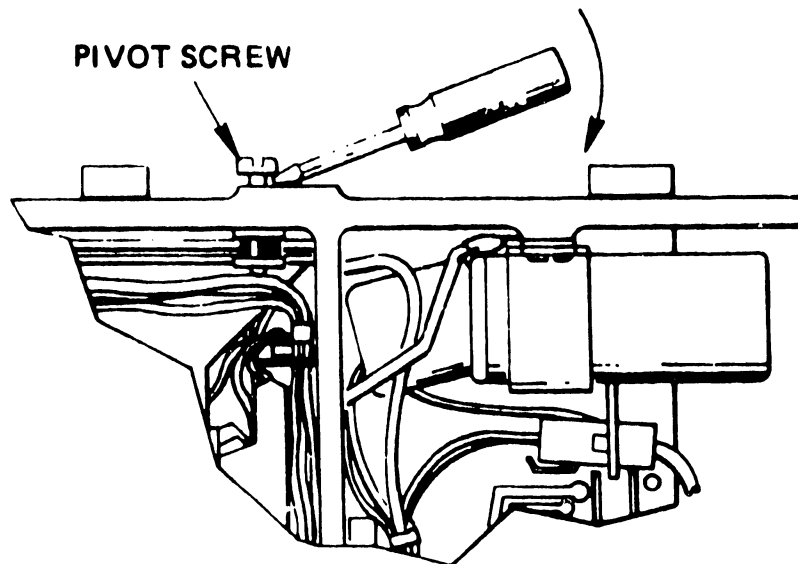

Figure 11 Cartridge Guide Removal
- f. Pull up on the upper pivot cap screw until the shoulder contacts the base casting (Refer to Figure 11). Push up on the cartridge guide until the lower pivot clears the casting.